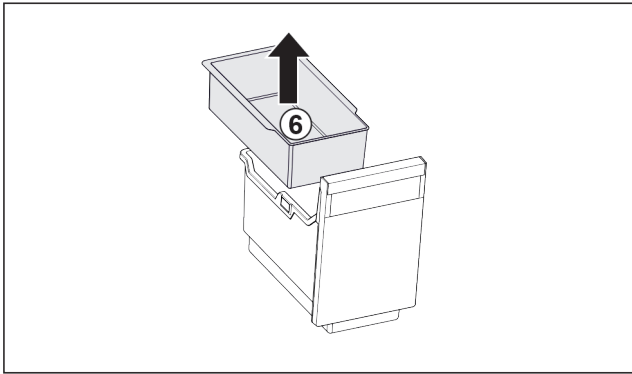

Fig. 119
- ▶ Remove the hang-on tray Fig. 119 (6).